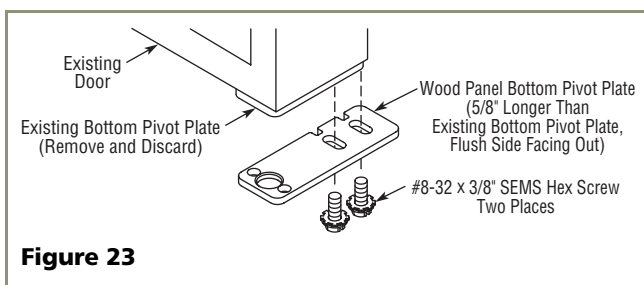

Figure 23
5. Remove the existing bottom pivot plate and replace with the Full Overlay pivot plate (see **Figure 23**).